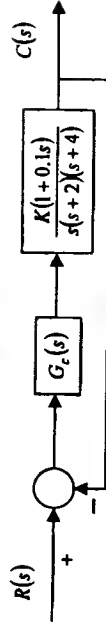

Fig. 4.
- The block diagram of a positioning system is shown in Fig. 4.